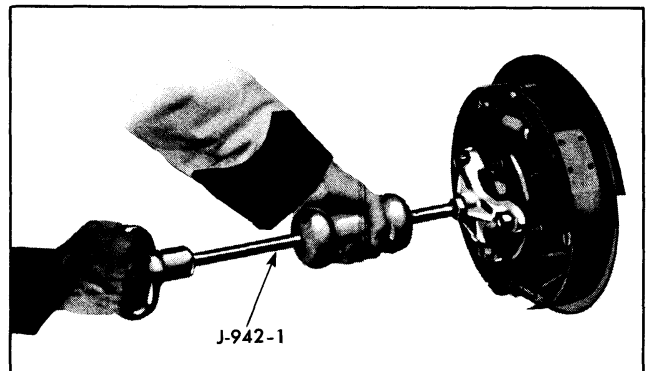

Fig. 4-15 Removing Axle Shaft with Puller J-942-1
5. Remove axle shaft assembly, using puller J-942-1, if necessary (Fig. 4-15). Do not dislodge backing plate or brake pipe may be damaged.